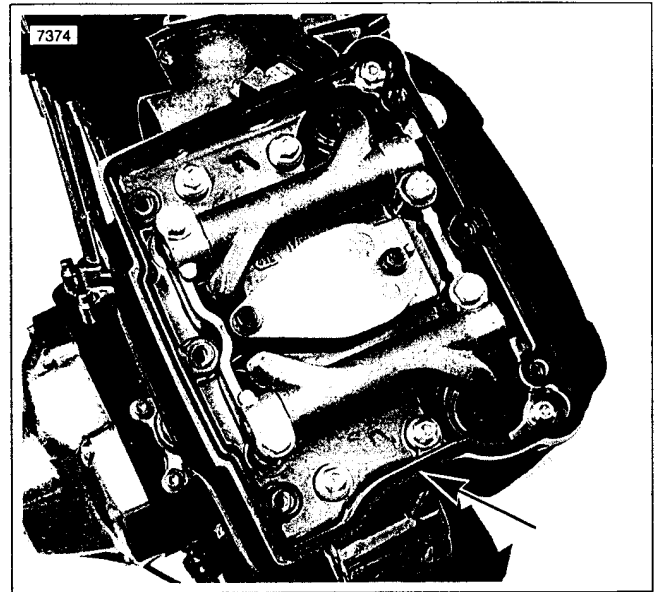

Figure 3-48. Rocker Cover Gasket Indent (Front Cylinder Shown)
2. See Figure 3-48. Install a new rocker cover gasket with indent facing forward on the rocker housing flange. Place the rocker cover into position aligning the holes in the cover with those in the gasket.